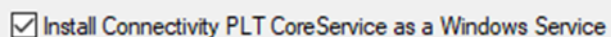

Figure 17. CoreService Windows Service installation
- **CoreService System** – This should be installed in the system that is physically connected to the Connectivity PLT hardware. The service can be installed by enabling the Renesas Connectivity PLT Core Service Windows service checkbox in the installation wizard Figure 17. Take note of the IP address of the system, it is needed for the configuration of the Connectivity PLT application.